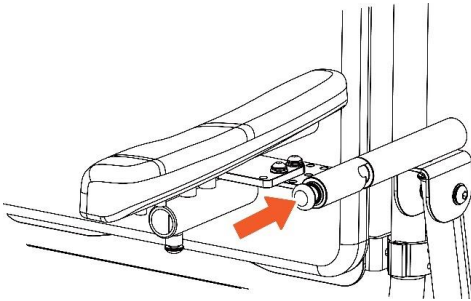
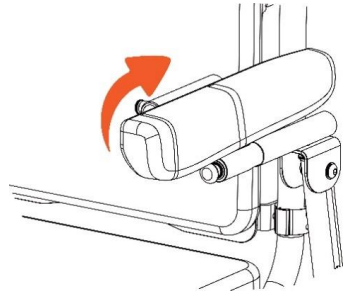

Figure 9.7
Figure 9.8
Press and hold the armrest swing-out release button (see Figure 9.7), then swing the armrest outward to 120° (see Figure 9.8).
- Step 1. Press and hold the armrest swing-out release button (see Figure 9.7), then swing the armrest outward (see Figure 9.8).